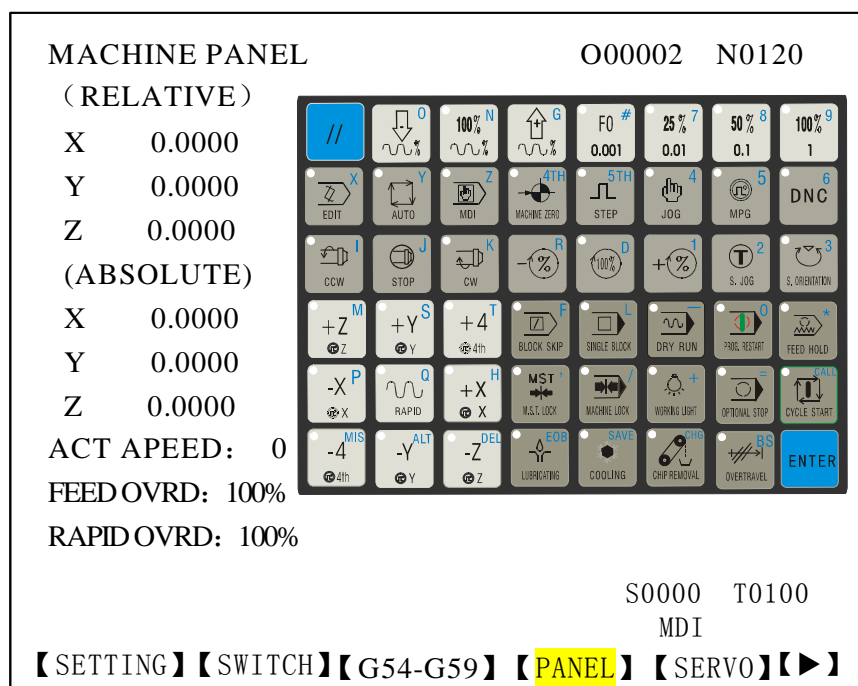

Fig. 3-5-4
1. Press **【PANEL】** soft key to enter machine panel page, which is shown as following(See Fig. 3-5-4):